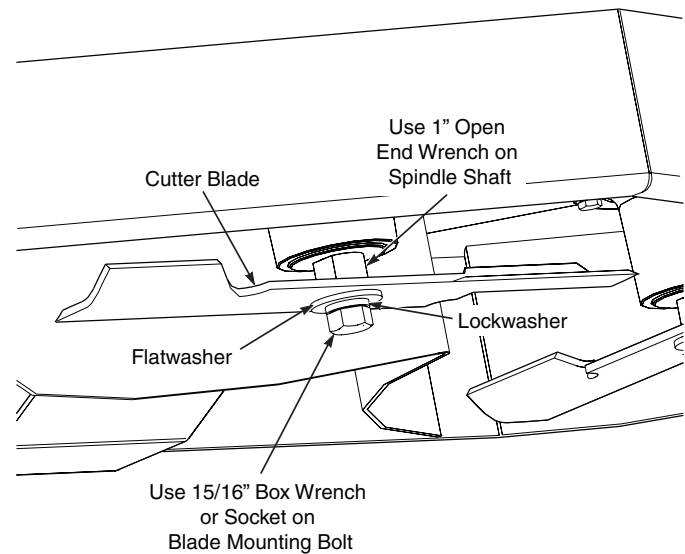

Figure 2-2. Cutter Blade Removal
4. Remove the original cutter blades from the cutter deck. To remove the cutter blades from the spindles, install a 1" open-end wrench onto the flats provided on the spindle shaft. This will allow you to hold the spindle in place and prevent it from rotating as you remove the blade mounting bolt (use optional Blade Buddy tool P/N 9212 to assist in securing the cutter blades). Use a 15/16" box wrench or socket to remove the blade mounting bolt. See Figure 2-2. Be sure to retain the bolts, lockwashers and flatwashers as the hardware will be needed to install the cutter blades included with this grass catcher.